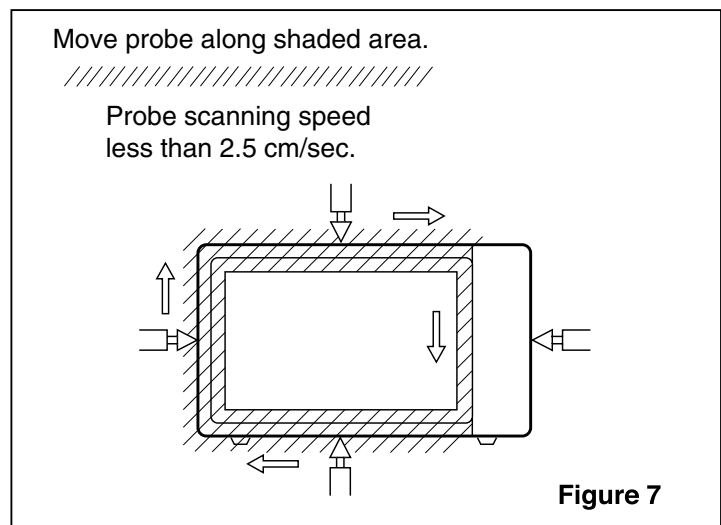

Figure 7
- (1) Pour 275 ± 15 cc of 20 ± 5 °C water in a beaker which is graduated to 600 cc, and place the beaker in the center of the oven.
- (2) Set the energy leakage monitor to 2450 MHz and use it following the manufacturer's recommended test procedure to assure correct result.
- (3) When measuring the leakage, always use the 2 inch (5 cm) spacer supplied with the probe.
- (4) Operate the oven at its maximum output.
- (5) Measure the microwave radiation using and electromagnetic radiation monitor by holding the probe perpendicular to the surface being measured. (See Figure 7)